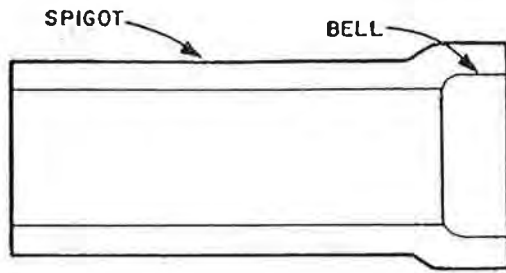

Fig. 3-1. Bell-and-spigot ends of clay pipe section.
3.06 Clay pipe (both vitrified and unglazed) is made and joined with the same type of bell-and-spigot joint described in Lesson Two (see Fig. 3-1). In joining sections of clay pipe, you should first thoroughly clean both ends of the pipe. The spigot (small) end of the pipe should be centered properly, and then seated securely in the bell end. The bell is then packed with jute, which is thoroughly tamped down, until about one-third of